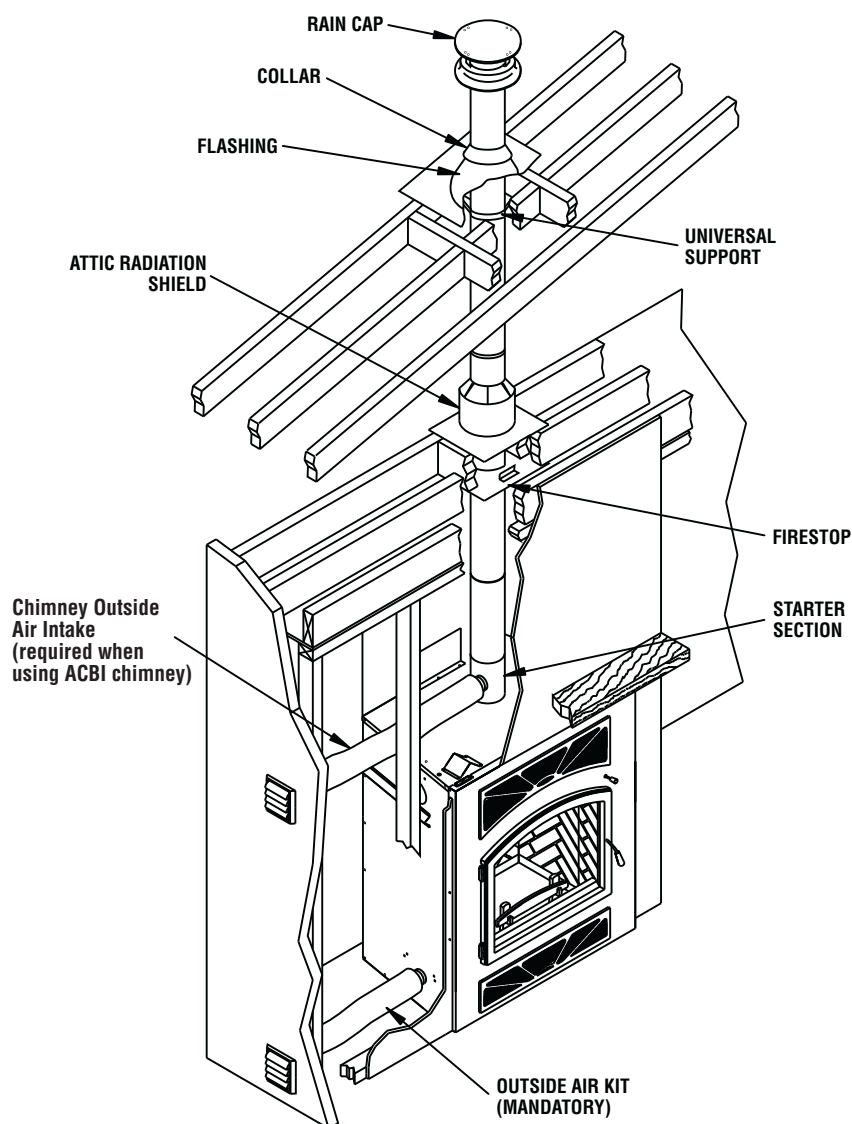
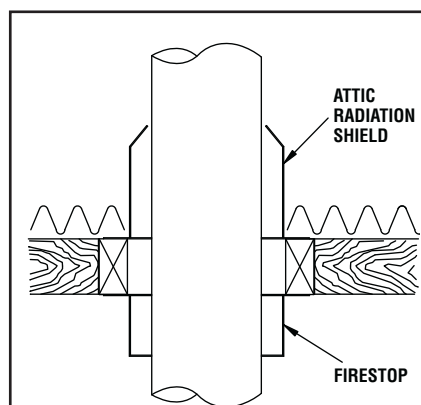

Figure 22
Figure 24
2. From below, install a firestop in each ceiling/floor separation through which the chimney will pass. At the attic level, install an attic radiation shield from above, (see **Figure 24**). S2100+* and ASHT+*: Place the first chimney length on the fireplace, to lock turn 1/4 of a turn clockwise. ACBI*: A starter section must be installed before installing the first chimney length (see **Figure 22**).